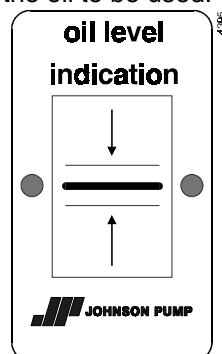

figure 6: Oil level indication
- The pump is supplied with an oil lubricated bearing construction and **is delivered without oil**. Flush the bearing housing with petrol or benzol first. Then, fill the bearing housing via the oil filler (shut off with oil fill plug (2270)) until the oil appears in the constant level oiler (2280). After this, fill the constant level oiler. See the indication plate (see fig 6) for the right oil level. See 10.4 for the relevant specifications of the oil to be used.